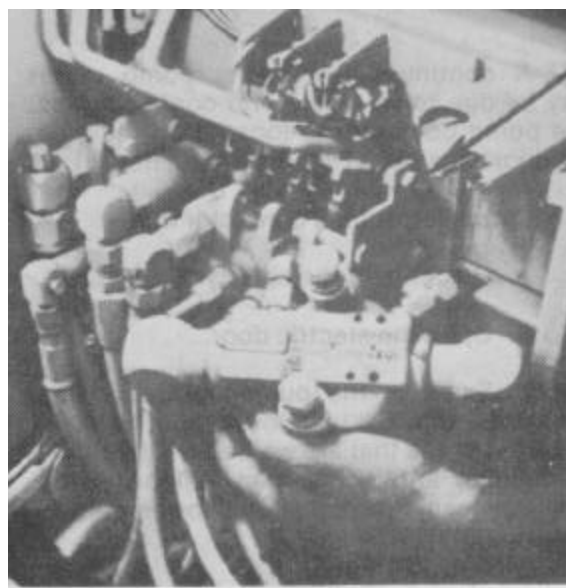

Figure 3-20
3.46.3 The hydraulic return filter may be moved for access to the control handle mounting hardware (Fig. 3-20).
3.46.4 Tighten the two 1/2-13 hex nuts at the end of the handle pivot shaft. Use 3/4 inch wrenches. The arrow in figure 3-20 indicates the handle pivot shaft nuts to be checked and tightened.